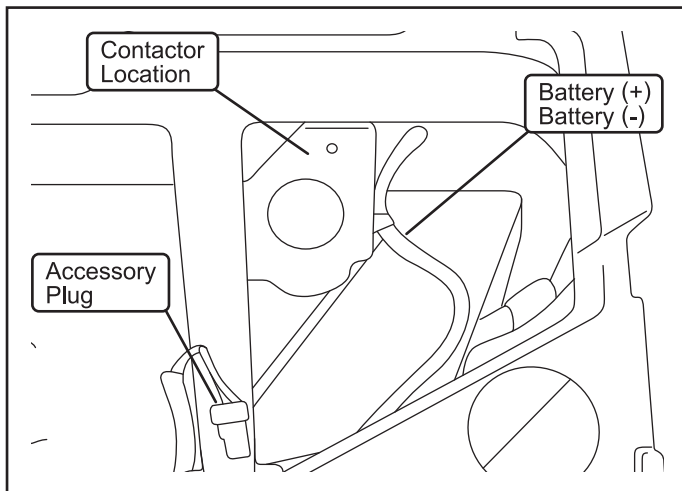
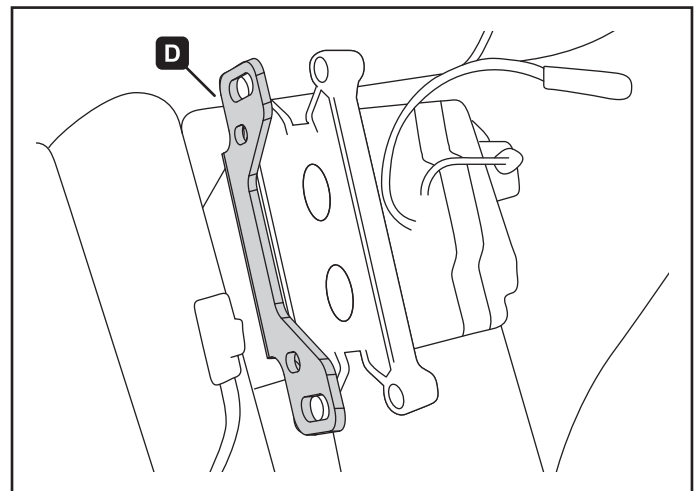

Figure 7.
Figure 8. Suggested contactor installation
Contactor location shown in figure 7. Use bolts (E), washers (J) and lock nuts (H) as well as the hardware provided with your winch to fasten the contactor and contactor bracket (D) to the OEM contactor location, see figure 8.
Battery Location: See OEM battery connection cables (Battery (+) and Battery (-)) shown in figure 7.
Accessory Power for Switches or Other Controls: can be found at the blue accessory plug, as seen in figures 7 and 10.